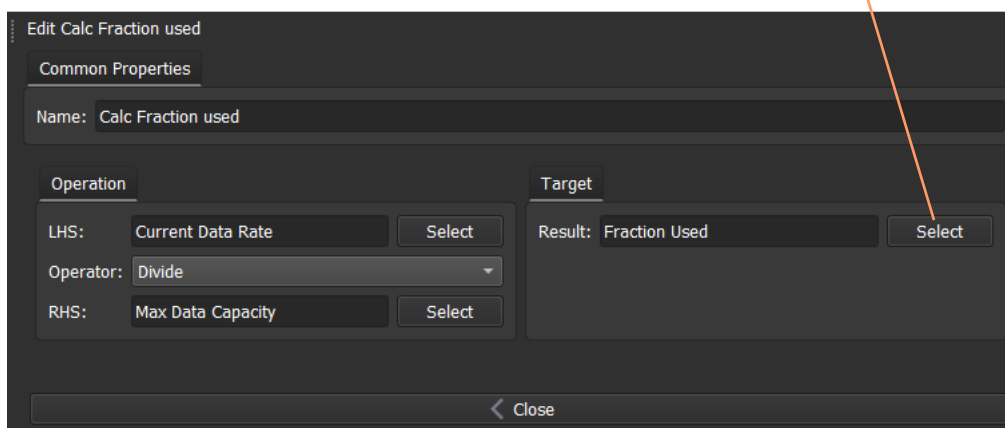

Fig. 3-20: Math Binding Edit Screen
And double-click on this box to show the **Math** Binding edit screen. See Figure 3-20.
- 3 Configure the **Math** Binding as shown in Figure 3-20.